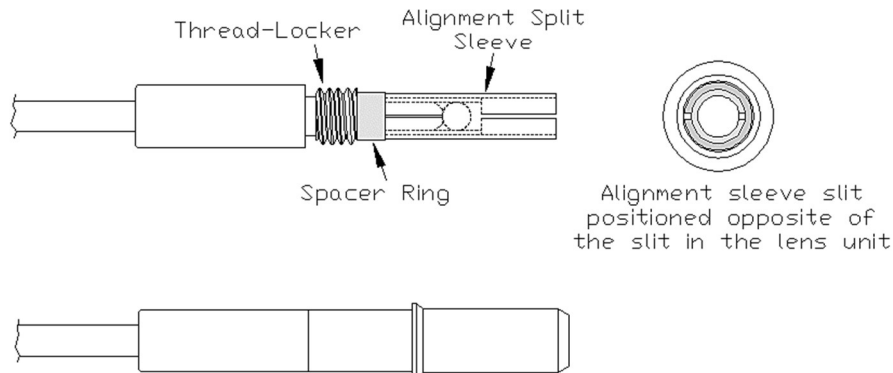

Figure 10
1. Slide the spacer ring over the barrel (see Figure 10).
2. Next, slide on the alignment split sleeve, preferably with its slit orientation approximate opposite that of the lens-unit (see Figure 10).